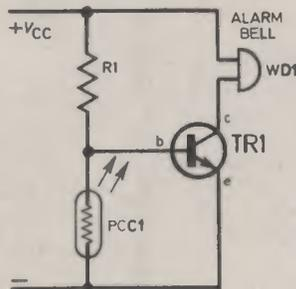

Fig. 3.11. See Q3.3.
- Q3.3 The burglar alarm circuit of Fig. 3.11 makes use of the fact that the resistance of the light-dependent resistor PCC1 falls considerably when a beam of infra-red light strikes it. If the alarm bell is to sound when an intruder's body interrupts the beam how must the circuit work?